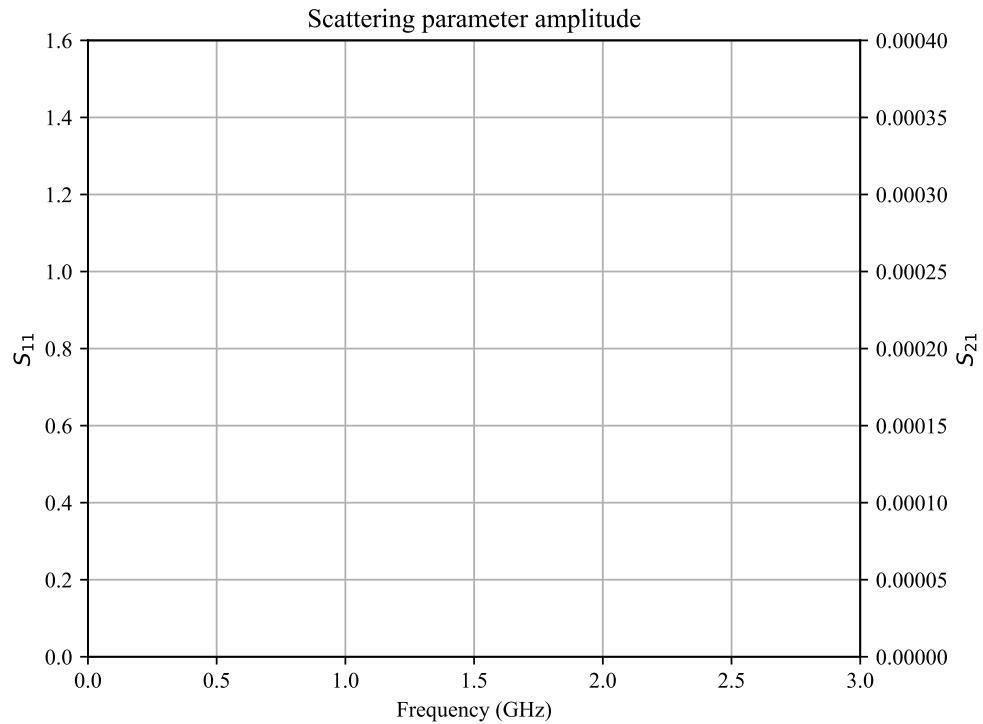

Figure 6: Scattering parameters, port 1 calibrated (to be completed).
9. *(Lab)* Disconnect the load and sketch $|S_{11}|$ and $|S_{21}|$ in fig. 6.